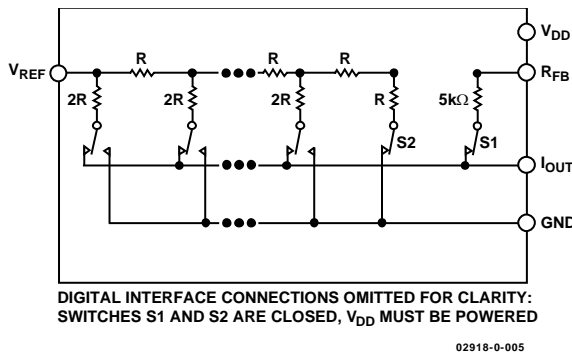

Figure 17. Equivalent R-2R DAC Circuit
The DAC architecture uses a current-steering R-2R ladder design. Figure 17 shows the typical equivalent DAC. The DAC contains a matching feedback resistor for use with an external I-to-V converter amplifier. The RFB pin is connected to the output of the external amplifier. The IOUT terminal is connected to the inverting input of the external amplifier. These DACs are designed to operate with either negative or positive reference voltages. The VDD power pin is used only by the logic to drive the DAC switches on and off. Note that a matching switch is used in series with the internal 5 kΩ feedback resistor. If users attempt to measure the RFB value, power must be applied to VDD to achieve continuity. The VREF input voltage and the digital data (D) loaded into the corresponding DAC register, according to Equation 1 and Equation 2, determine the DAC output voltage.